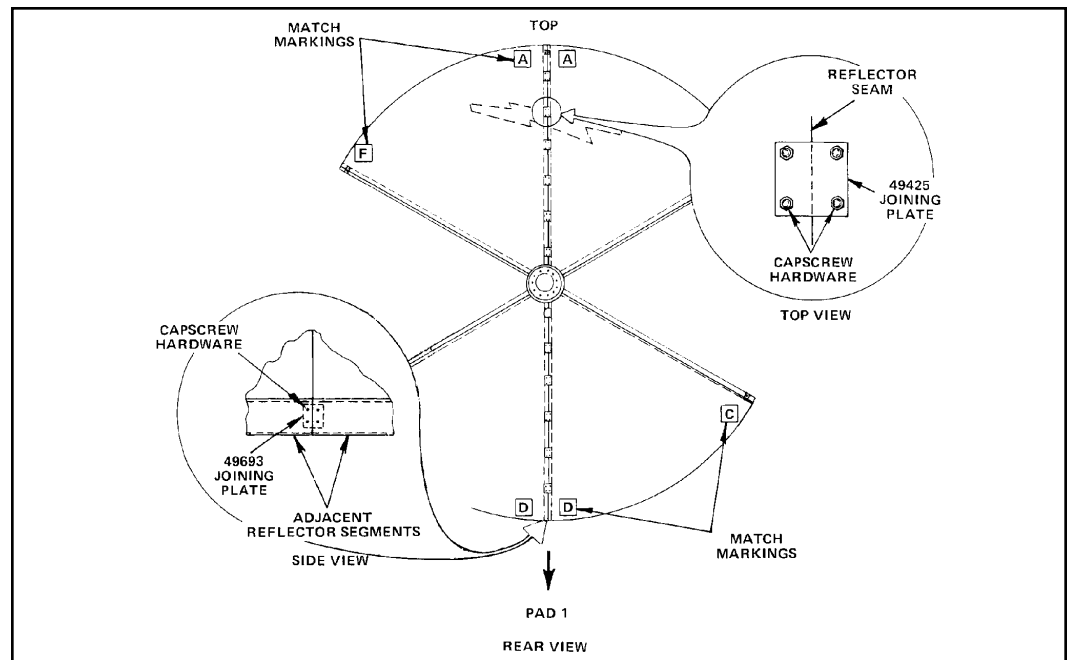

Figure 25
Step 7 Loosely attach joining plate (P/N 49693) along **A-A** seam inside reflector rim as shown in Figure 25.